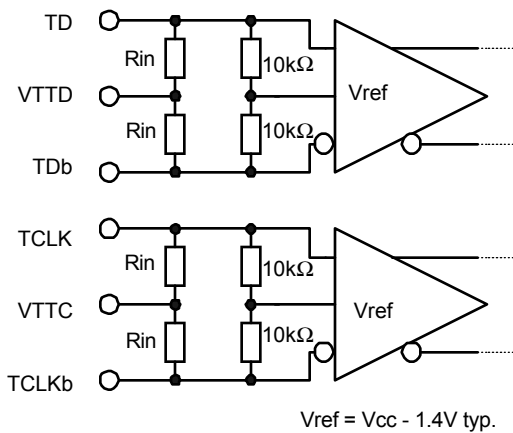

Figure 3 Data and Clock Input Interface
2. Measured between each signal input and VTTD or VTTC. Refer to Figure 3.